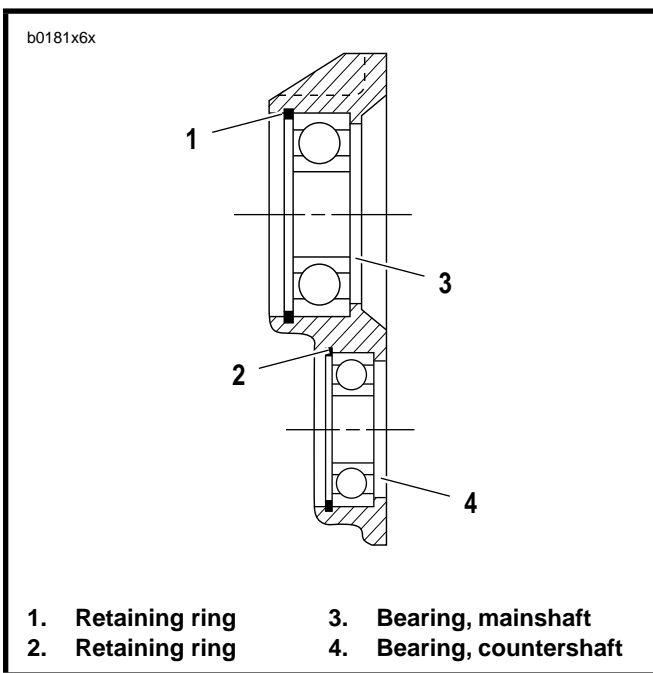

Figure 6-40. Ball Bearing Assembly
3. See Figure 6-40. If bearing replacement is required, remove retaining rings (1, 2). Press out bearings (3, 4) from the inside of the door.